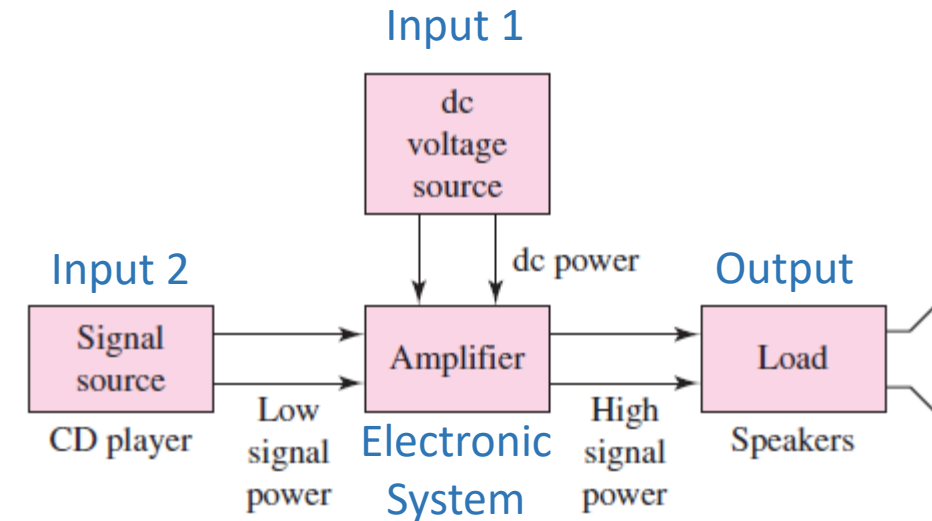

Figure PR1.1
- For example, Figure PR1.1 shows a signal source that is the **output of a compact disc (CD) system**.